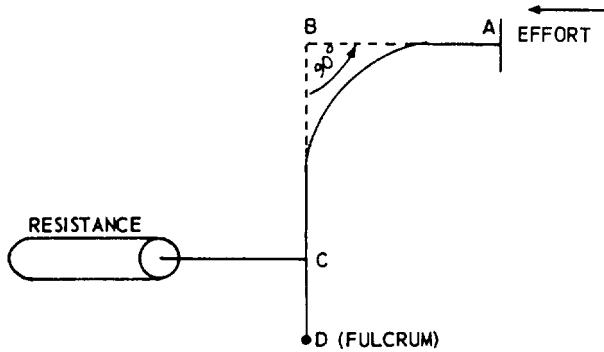

Figure 1E.—A curved lever.
- 1-20. The length of the effort arm in figure 1E is equal to the length of the